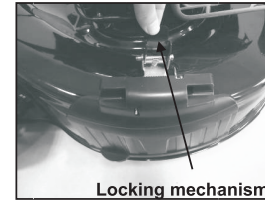

Fig.9A
3. Unlock the locking mechanism. (Fig. 9A)